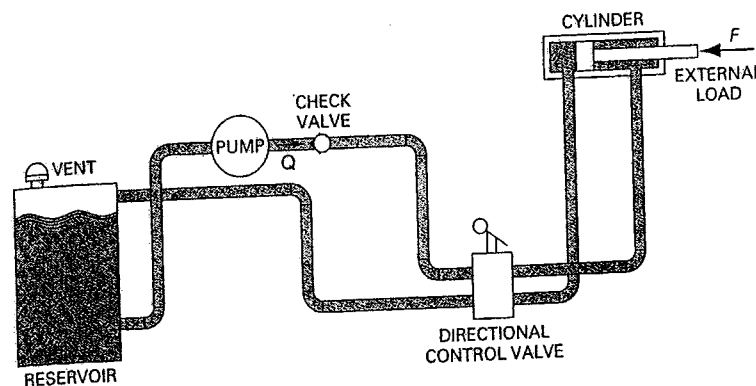

Figure 3A (Rajah 3A)
3. [a] For the fluid power system of Figure 3A, the following data are given: